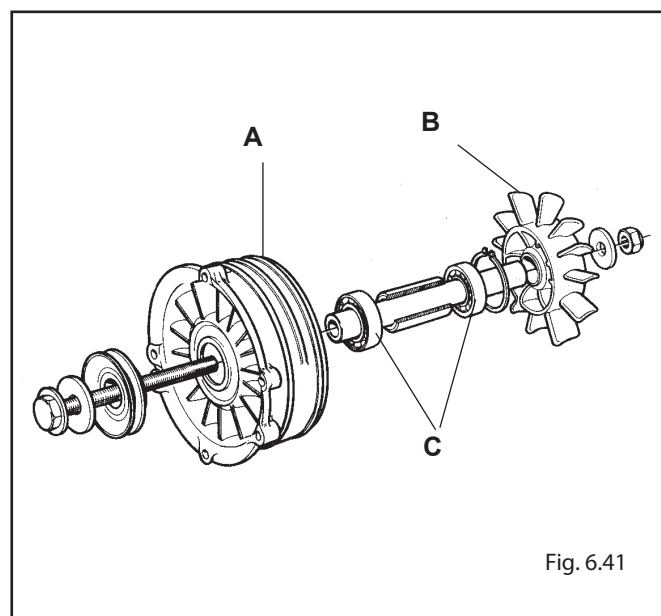

Fig. 6.41
6.30 BELT COOLING FAN (FIG. 6.41 - 6.42)
SUN 2105 - 3105 - 3105T- (FIG. 6.41)
SUN 2105E1 - 3105E1 - 3105TE1- (FIG. 6.41)
Replace shroud **A** (Fig. 6.41 - 6.42) if the values deviate with respect to the specified tolerances.